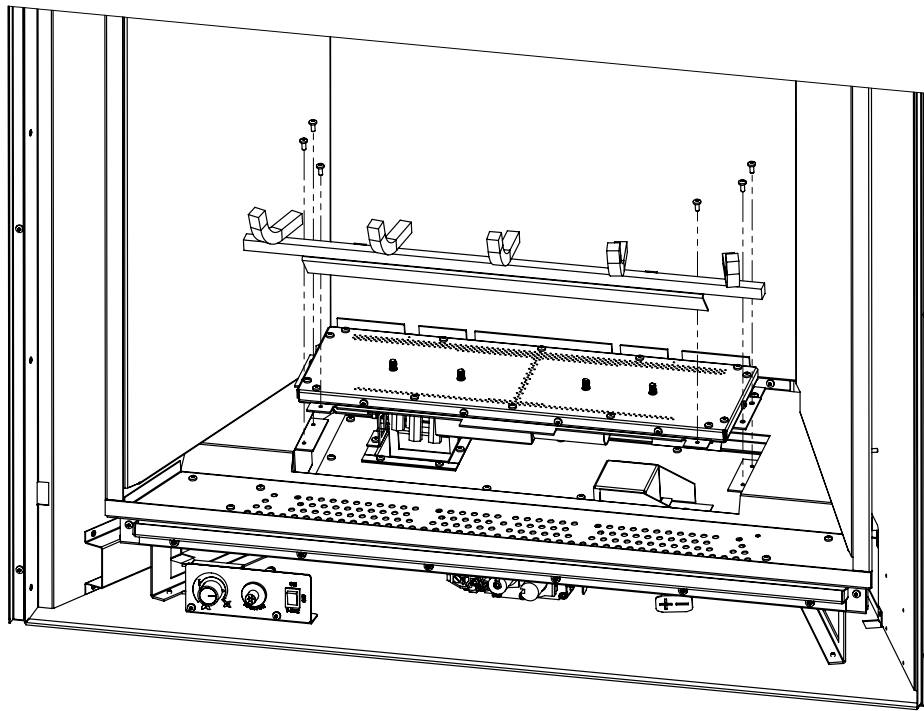

Figure 21. Front Burner Removal
6. Remove the four T-20 screws securing the burner pan (see Figure 21). Slide the pan to the left and lift out. Reassemble in the reverse order.